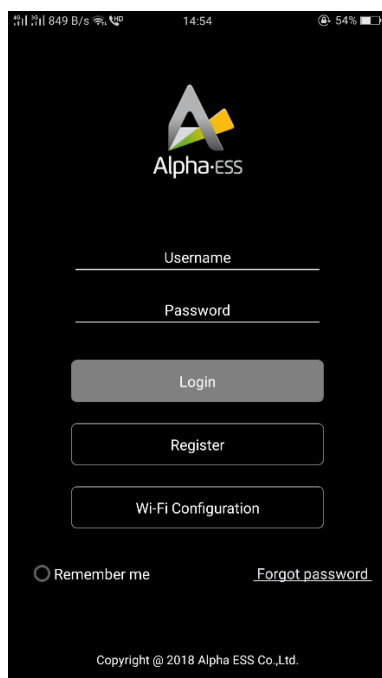

Figure 4.2 Network Setting
Step 1: fill in the "user name" and "password" and log in the mobile Alpha APP, as shown in Figure 4.2.